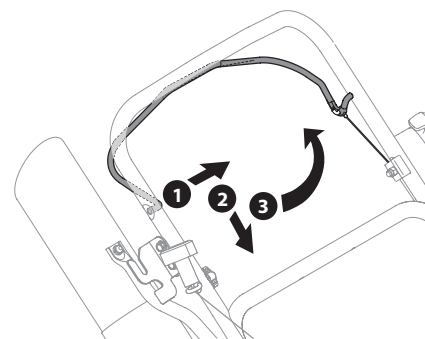

Figure 19
1. Push the right side of the control out of the right hole in the upper handle. See 1 in Figure 19.
2. Pivot control down towards the lower handle. See 2 in Figure 19.
3. Pivot straight up to remove it from the left hole in the upper handle. See 3 in Figure 19.